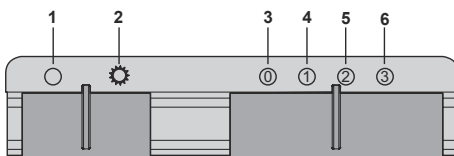

Fig. 16
1. ➤ Bring to this position to turn off the lamp (Fig. 16).
2. ➤ Bring to this position to turn on the lamp (Fig. 16).
3. ➤ Bring to this position to turn off the lamp (Fig. 16).
4. ➤ Bring to this position when you want to operate the product in 1. speed (Fig. 16).
5. ➤ Bring to this position when you want to operate the product in 2. speed (Fig. 16).
6. ➤ Bring to this position when you want to operate the product in 3. speed (Fig. 16).